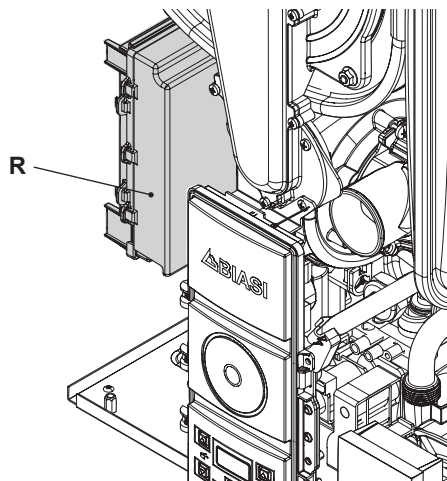

Fig. 6.16
- Identify the terminal block cover lid "P" (Fig. 6.16) and open it.